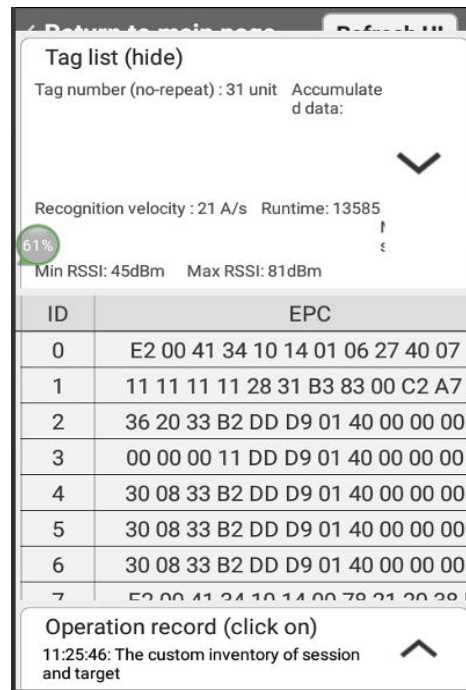

Figure 4.0
**1.4** Click the icon button ‘^’ to check data information the device read as the figure 4.0.